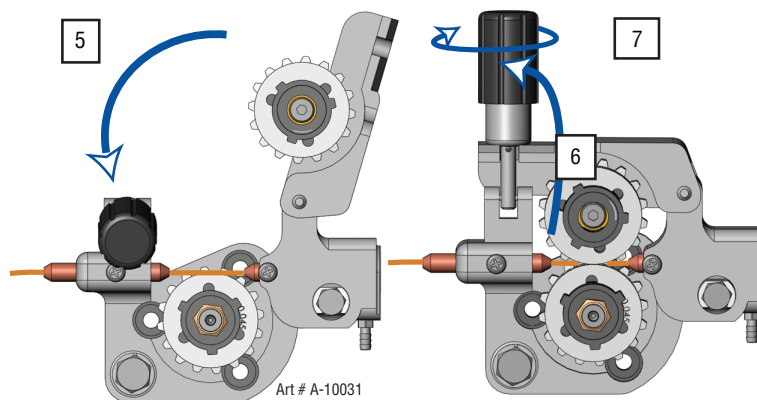

Figure 3-12: Closing Pressure Arm and Adjusting Tension
5. Close the Pressure Roller Arm. (Figure 3-12)
6. Swing the Spring Pressure Adjusting Knob back into place. (Figure 3-12)
7. Use the Spring Pressure Adjusting Knob to create a “snug” condition. (Clockwise to Tighten and Counter Clockwise to loosen). (Figure 3-12)